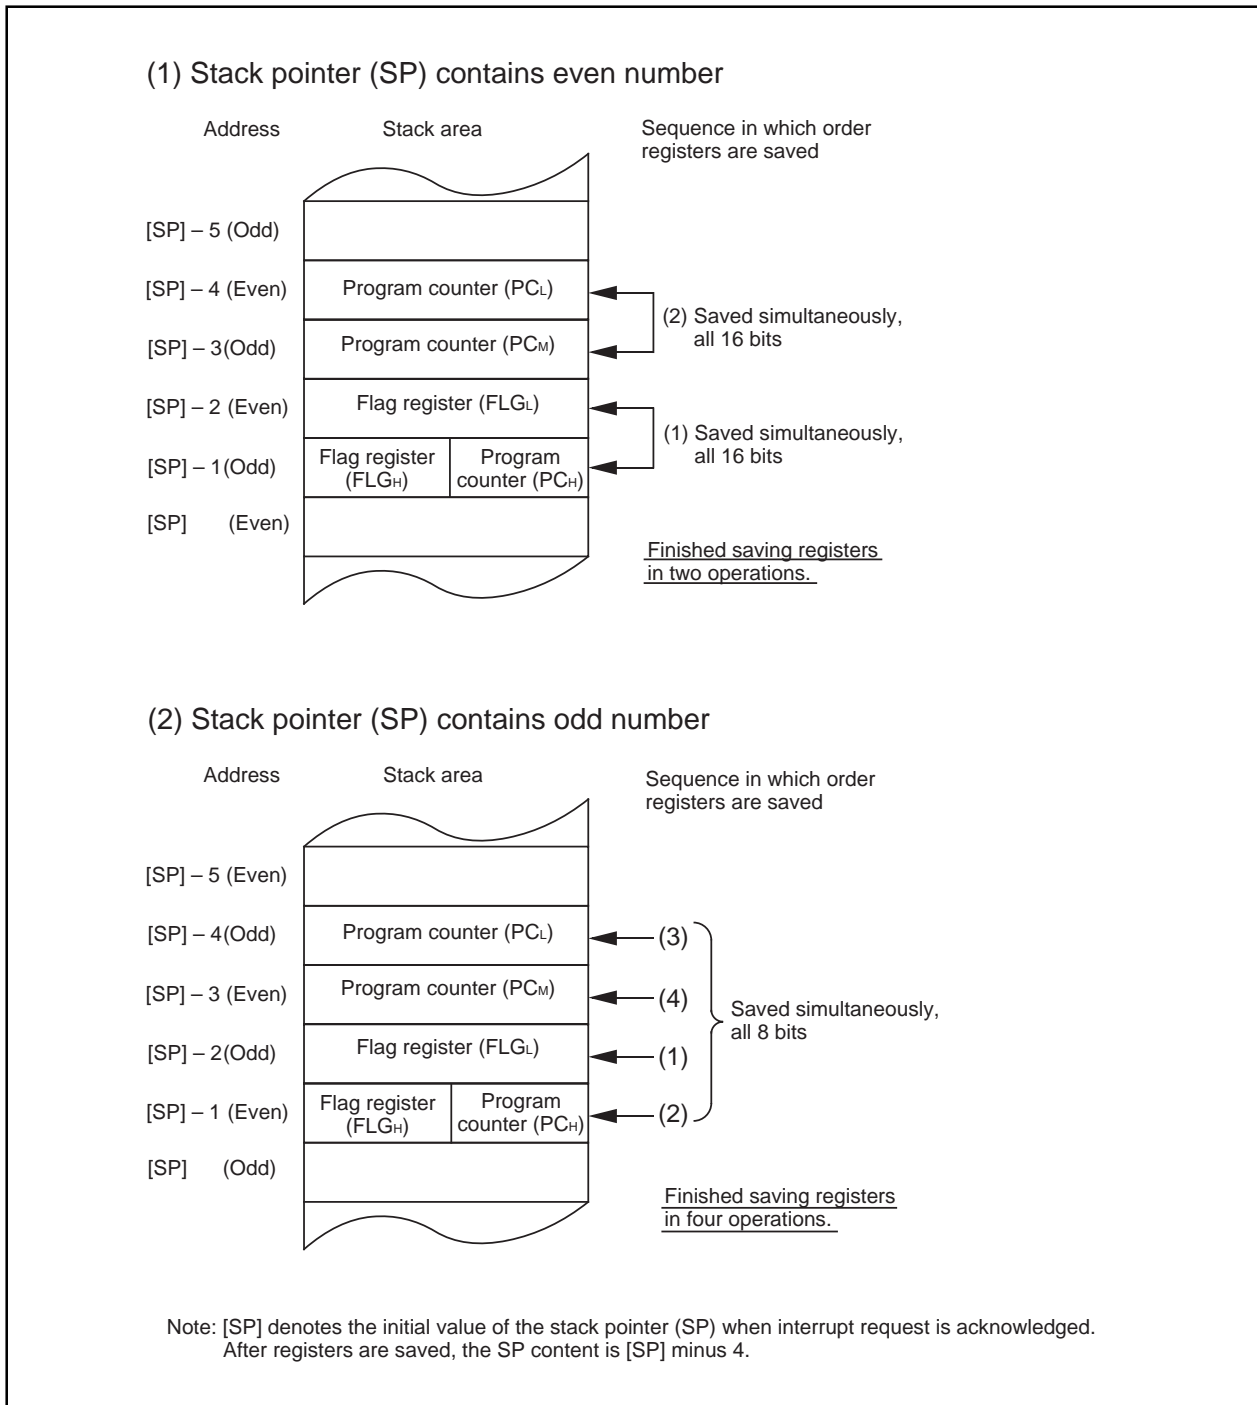

Figure 27. Operation of saving registers
The operation of saving registers carried out in the interrupt sequence is dependent on whether the content of the stack pointer, at the time of acceptance of an interrupt request, is even or odd. If the content of the stack pointer (Note) is even, the content of the flag register (FLG) and the content of the program counter (PC) are saved, 16 bits at a time. If odd, their contents are saved in two steps, 8 bits at a time. Figure 27 shows the operation of the saving registers.